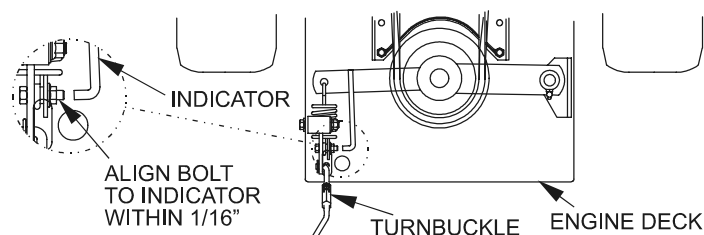

FIGURE 14
- c) Look through the round hole in the left rear corner of the engine deck to inspect PTO clutching belt tension. Bolt on PTO engagement linkage bellcrank and indicator arm should align within 1/16" (See figure 14). Refer to section 5.2.2 for adjustment.
- b) With PTO engaged, adjust the linkage length by loosening the lock nut on the turnbuckle and adjusting the turnbuckle so that the bolt on the bellcrank and the indicator arm align with each other within 1/16" (1.6 mm). See Figure 14. Tighten locknut against turnbuckle.